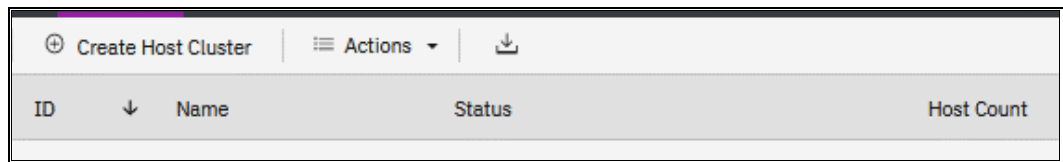

Figure 7-27 Create Host Cluster
2. Click **Create Host Cluster** to open the wizard that is shown in Figure 7-27.